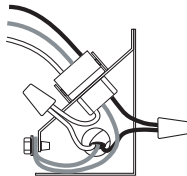

Figure 6 — Proper Wiring
2. Using proper wire connectors, wire the fan as shown in Figure 6.